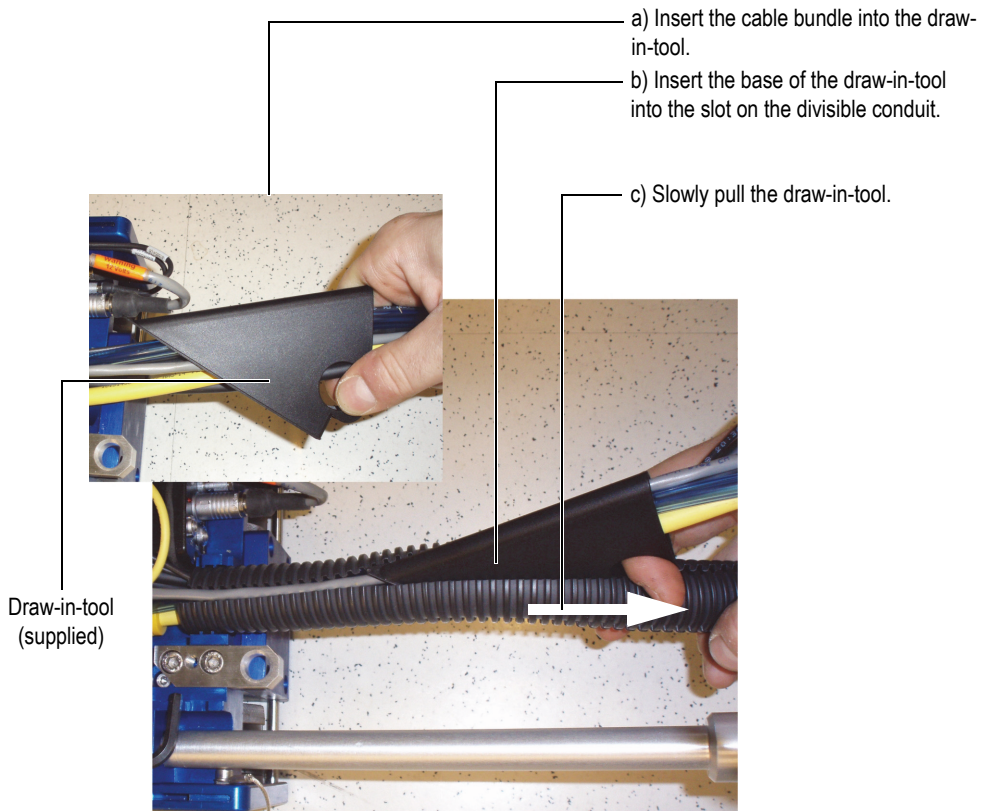

Figure 2-5 Umbilical—draw-in-tool and divisible conduit
6. If required, use the supplied draw-in tool (Olympus part number 54EC0282) to insert the cable bundle into the divisible cable conduit (see Figure 2-5 on page 28):
- a) Insert the cable bundle into the supplied draw-in tool (see step A in Figure 2-5 on page 28).
- b) Insert the base of the draw-in tool into the slot on the divisible conduit (see step B in Figure 2-5 on page 28).
- c) Slowly pull the draw-in tool to insert the cable bundle into the divisible conduit (see step C in Figure 2-5 on page 28).